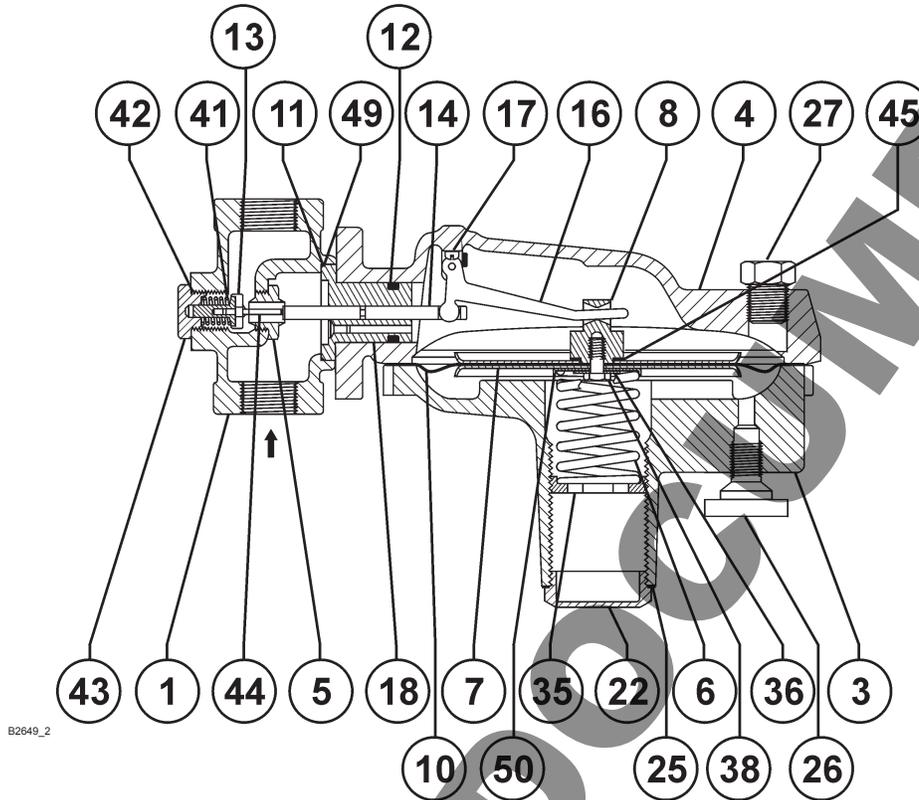
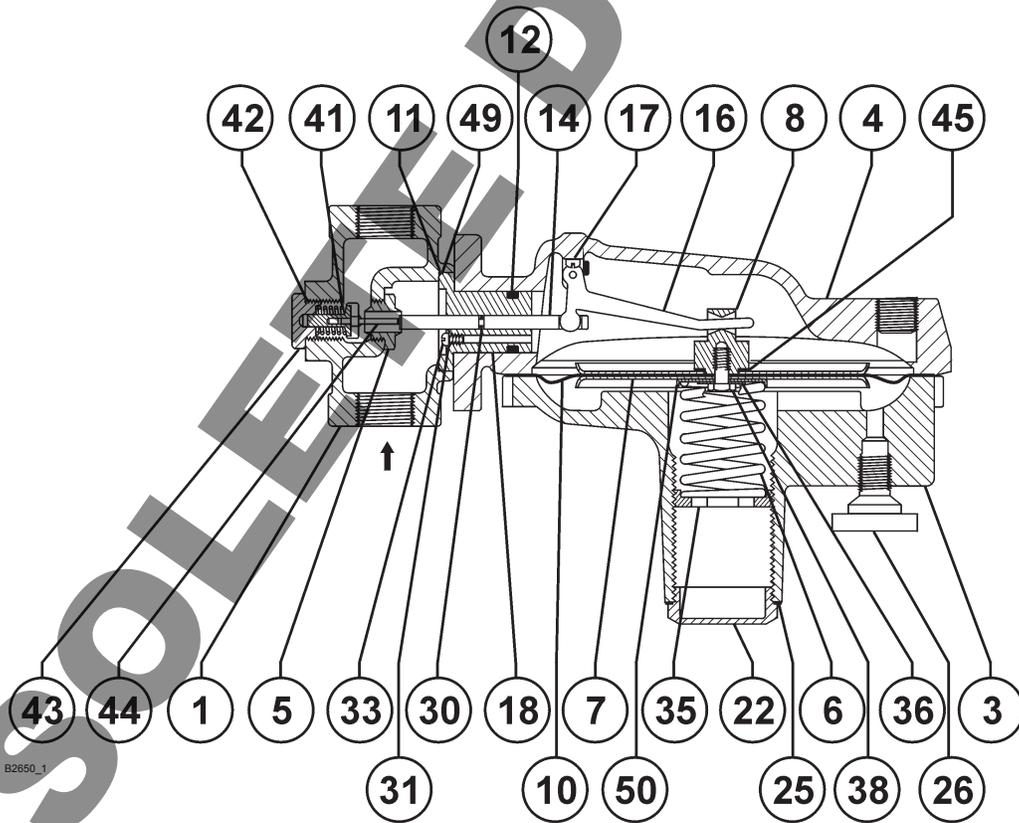

Figure 3. Type Y695A Assembly
Figure 5. Type Y695AM Assembly
operation, the regulators should be installed with the spring case barrel pointed down. Key numbers referenced in this section are shown in Figures 3, 4, and 5.
With installation completed, the regulator can be placed in operation by slowly opening the upstream and downstream block valves, if used, while using gauges to monitor pressure. The regulator has been adjusted at the factory to provide approximately the pressure requested. The range of allowable pressure settings is stamped on the nameplate. If a pressure setting beyond the stamped range is required, install a spring with the desired range by following the procedures for changing the spring in the Maintenance section. To adjust the pressure setting, perform the following steps (key numbers are referenced in Figures 3 and 5):
This procedure is for gaining access to the disk assembly, orifice, and body seal O-ring. All pressure must be released from the regulator, before the following steps can be performed. Key numbers are referenced in Figures 3, 4, and 5.
1. To inspect and replace the disk assembly (key 13) remove the body cap assembly (key 43).
2. Remove the disk assembly (key 13) from the disk spacer (key 44) and replace if necessary.
3. To inspect the orifice (key 5, Figures 3 and 5) on Types Y695A and Y695AM or throat seal (key 31, Figure 5) and machine screw (key 33, Figure 5) on the Type Y695AM, remove the cap screws (key 2) and separate the diaphragm case assembly (key 4) from the body (key 1).
4. Remove and inspect the body seal O-ring (key 11) and the backup ring (key 49). Replace if damaged.
5. For a Type Y695AM (Figure 5), inspect the throat seal O-ring (key 31) by removing the machine screw (key 33). Replace if necessary. To install a throat seal, place the O-ring on the machine screw and thread into guide insert (key 18) to seal.
6. Inspect and replace the orifice (key 5) if necessary. Lightly lubricate the threads of the replacement orifice. Install with 29 to 37 foot-pounds (39 to 50 N•m) of torque.
7. Install the backup ring (key 49) into the body (key 1). Next place the body seal O-ring (key 11) into the body. See Figure 5.
This procedure is for gaining access to the control spring, diaphragm, and lever assembly stem. All pressure must be released from the diaphragm case assembly before performing the following steps. Key numbers are referenced in Figures 3, 4, and 5.
Use this procedure to gain access to the control spring, diaphragm assembly, valve stem, and stem O-ring. All pressure must be released from the diaphragm case assembly before performing these steps. Key numbers are referenced in Figures 3, 4, and 5.
1. Remove pipe plug (key 27) from the diaphragm casing (key 4).
3. Insert the throat seal O-ring (key 31, Figure 5) and machine screw (key 33, Figure 5).
4. Insert the stem seal O-ring (key 30) by following steps 1 through 6 and 8 through 11 in the Diaphragm and Spring Case Area Maintenance section.
1. Insert pipe plug (key 27) in the diaphragm casing (key 4).
2. Follow steps 1 through 6 and 8 through 11 in the Diaphragm and Spring Case Area Maintenance section to remove the stem seal O-ring (key 30, Figure 5).
3. Follow steps 1 through 5 of Body Area Maintenance to remove the throat seal (key 31, Figure 5) and machine screw (key 33, Figure 5).